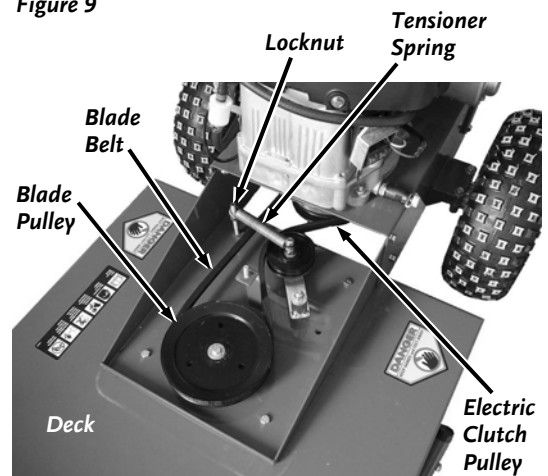

Figure 10
2. Remove the top nut from the Tensioner Spring Bolt (**Figure 10**) with a 9/16" Wrench. Remove the Tensioner Spring from the Bolt Threads by gripping the Spring with your gloved hand, pulling the Spring toward the Bolt, and lifting up off of the Bolt Threads.
NOTE: Make sure to route the new Belt on the right hand side of the Idler Pulley as shown in Figure 10.